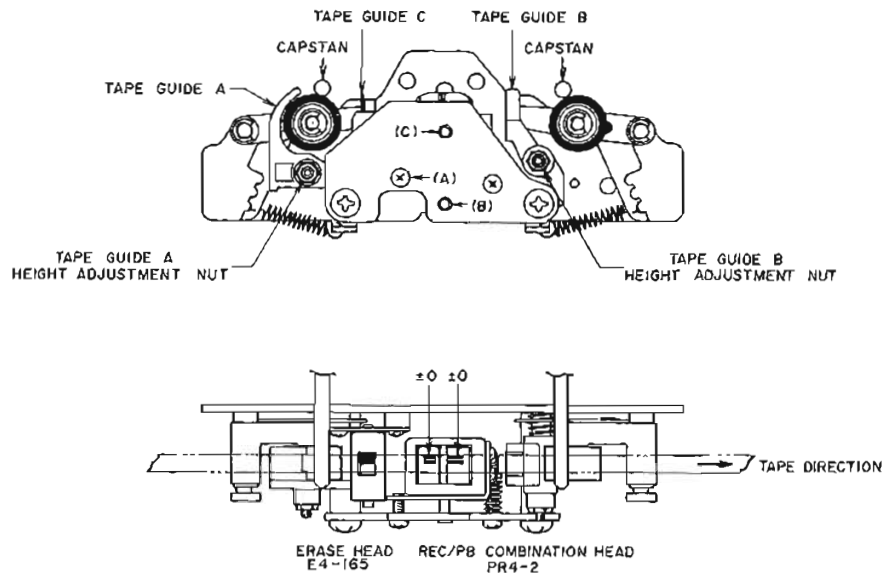
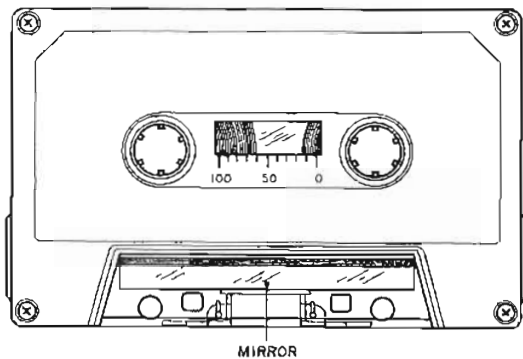

Fig. 11
Fig. 12
(See Fig. 11 and Fig. 12)
- 1) When using an ordinary cassette, the tape guides and heads, etc. are not visible. As shown in Fig. 12, use a cassette tape from which part of the cassette case has been cut out and a mirror installed for easy visibility of the head area when making tape guide height adjustment.
- 2) At playback mode, using erase head tape guide shown in Fig. 11 as standard for height, adjust tape guide A and tape guide B height with tape guide height adjustment nut so that the tape runs smoothly and does not catch on the tape guides.
(See Fig. 11)
- 2) As shown in Fig. 11, adjust head height with screws (A) (B) and (C) until the upper edge of the tape is the same height as the upper edge of the left channel REC/PB Comb. Head core.
- 1) Playback a 10 kHz pre-recorded cassette azimuth alignment test tape and adjust screw (A) to obtain maximum output on both channels.
- 4) Set Monitor Switch to TAPE position and adjust screw (A) shown in Fig. 11 to obtain maximum output on both left and right channels.
- d. Supply a 5 kHz signal to terminal (13) shown in Fig. 11 and obtain a -20 dBm line output level.